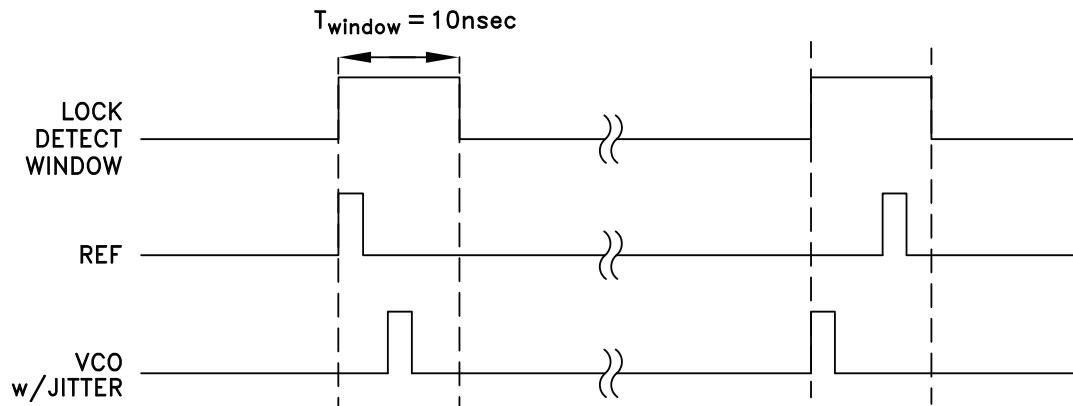

Figure 11. Normal Lock Detect Window
The Lock Detect circuit in the HMC700LP4(E) places a one shot window around the reference. The one shot window may be generated by either an analog one shot circuit or a digital one shot based upon an internal ring oscillator. Clearing *ringosc\_oneshot\_sel* (Table 14) will result in a fixed analog based nominal 10 nsec window, as shown in Figure 11. Setting *ringosc\_oneshot\_sel* will result in a variable length widow based upon a high frequency internal ring oscillator. The ring oscillator frequency is controlled by *ringosc\_cfg*. The resulting lock detect window period is then generated by the number of ring oscillator periods defined in *oneshot\_duration*, both in (Table 14).
The Lock Detect Flag is output to LD\_SDO pin according to *pdf\_LD\_opEn* (Table 18) or to the internal SPI read only register if *locked* = 1 (Table 21). Setting *pdf\_LD\_opEn* will display the Lock Detect Flag on LD\_SDO except when a serial port read is requested, in which case the pin reverts temporarily to the Serial Data Out pin, and returns to the Lock Detect Flag after the read is completed. Timing of the Lock Detect and Serial Data Out functions are shown in Figure 11.